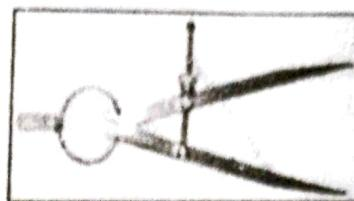

Fig. 4.
5. **Dividers:** used for drawing circles, arc on sheet metal and also used to mark a desired distance between two points Fig. 4.